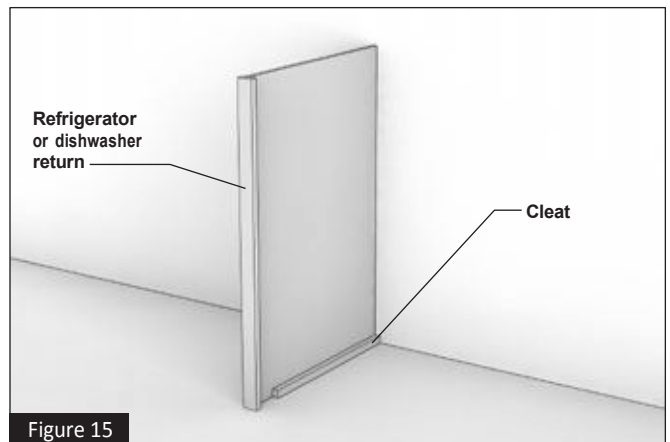

Figure 15
5.2 When installing a refrigerator or dishwasher return, it is important to mount a cleat at the floor to secure this panel. Simply cut a piece of 1x2 dimensional lumber about 20" long so it is not exposed at the front of the panel. Then secure to the floor with 2–3 fasteners (concrete screws for concrete floors / wood screws for wood floors). Secure the cleat to the panel (DWR, RR, SFR, etc.) with 2–3 wood screws. (Figure 15)